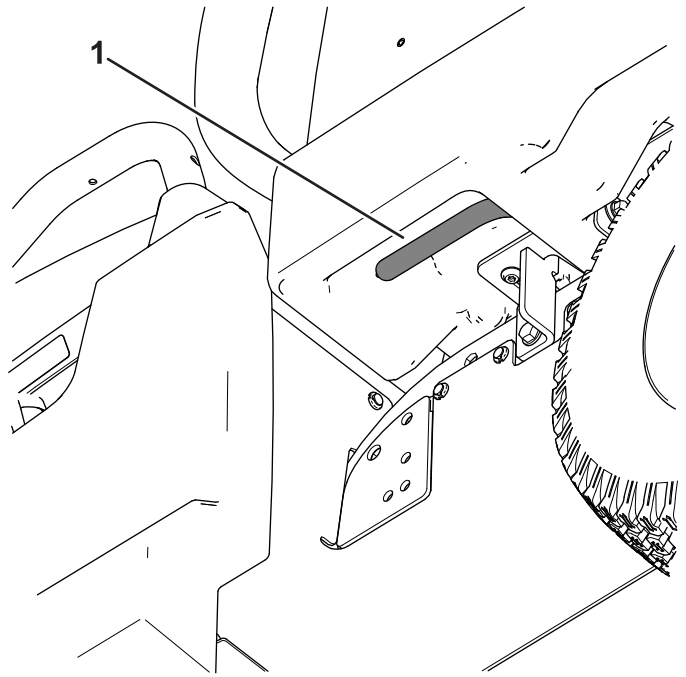

Figure 18
1. Pull the lever on left, inside of the cargo bed toward you and lift the cargo bed up (Figure 18).
1. Raise the cargo bed slightly by lifting up on the latch lever (Figure 18).